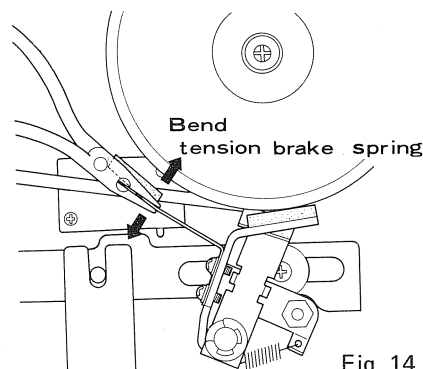

Fig. 14
3. If proper reading is not obtained, refer to Fig. 14. The FUNCTION lever at STOP position and bend tension brake spring inward for stronger back tension, outward for weaker back tension.